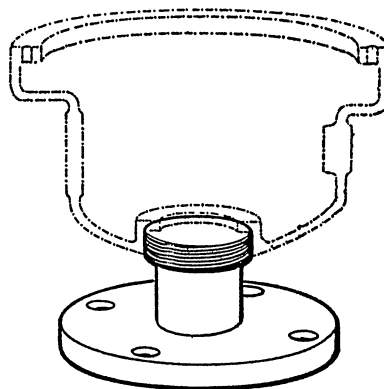

Fig. 7. Top chamber fixture ST.5004
(2) Mount the top chamber on the fixture ST.5004 (fig. 7). This fixture supports the top chamber whilst the components are being dismantled.
(3) Unscrew the thirteen countersunk-head screws from the diaphragm support. Remove the support and the orifice filter assembly.
(4) Unclip the filter guard from the outlet valve cap-nut, and remove the nut. Remove the internal circlip from the nut, and shake out the filter, the support plate and the rubber washer. Remove the gland packing, slack off the outlet valve locknut, and remove the outlet valve and the washer. Unscrew the Schrader valve core from the valve body.
(2) Attach the atmospheric capsule assembly to the other end of the beam, using a second new pivot pin (Ref. No. 27KD/223). Lock the pin by crimping the ends, taking care not to squeeze the sides of the end fitting against the beam.
(3) Place the top chamber casting on the bench fixture ST.5004 (fig. 7). Apply a light coating of sealing compound (No. 1751) to the capsule attachment bolts, then fit the assemblies in the top chamber (absolute capsules to the left when the capsules side of the chamber is towards the operator). Rotate the absolute cap-